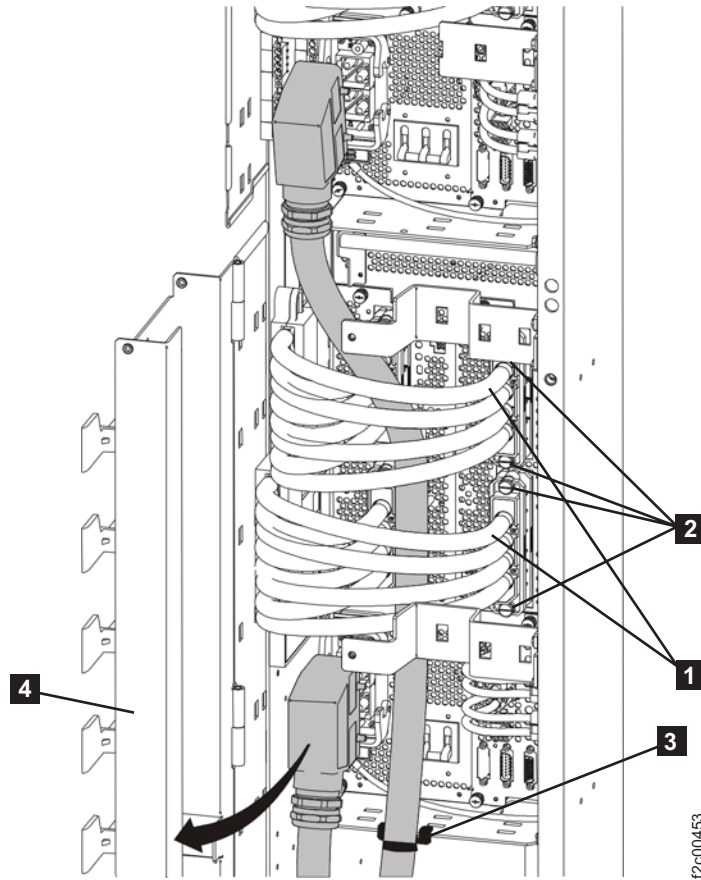

Figure 30. Routing the mainline power cables
3. Ensure the 208VDC bus bar gate **4** is in the open position. Refer to Figure 30 on page 35.
4. Route and connect the mainline power cables. Refer to Figure 30 on page 35 to complete the following steps: